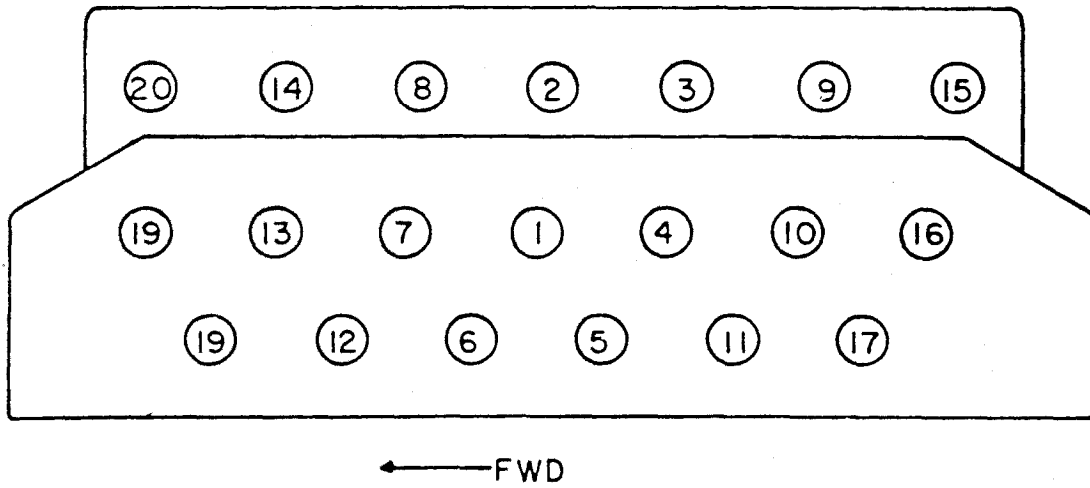

Figure 12-7. Cylinder Head Nut Tightening Sequence.
- (1) Install cylinder head and rocker arm assembly in reverse order of removal procedures.
- (2) Torque nuts to 75 lb-ft following the sequence of figure 12-7.
- (3) Repeat the sequence, torque each nut 125 lb-ft.
- (4) Again repeat the sequence, torque each nut as specified in paragraph 1-7b.